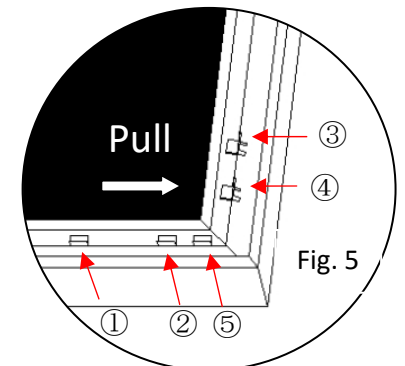

Fig. 5
1. Position yourself left of location ①.
2. Pull the material to the corner of the frame with your hand while your left hand snaps in the fix plate on location ① (the third red dot).
3. Then insert and snap in the fix plate on location ②.
4. Next, move and position yourself on location ③, then pull the edge to the frame and fasten plates on locations ③ and ④.
5. Finally, fasten the last fix plate on location ⑤. (Fig.5)